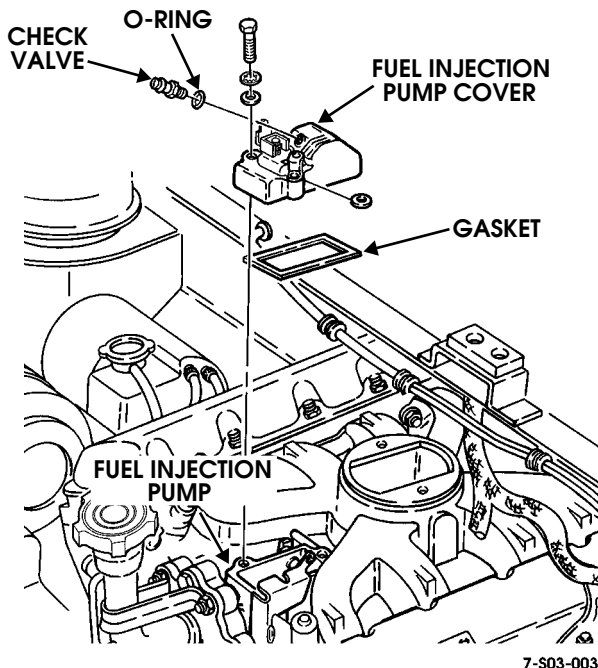

Figure 3-60: Pump Cover Removal/Installation (NA Diesel)
4. If cover will be replaced, remove check valve and O-ring (Figure 3-60).